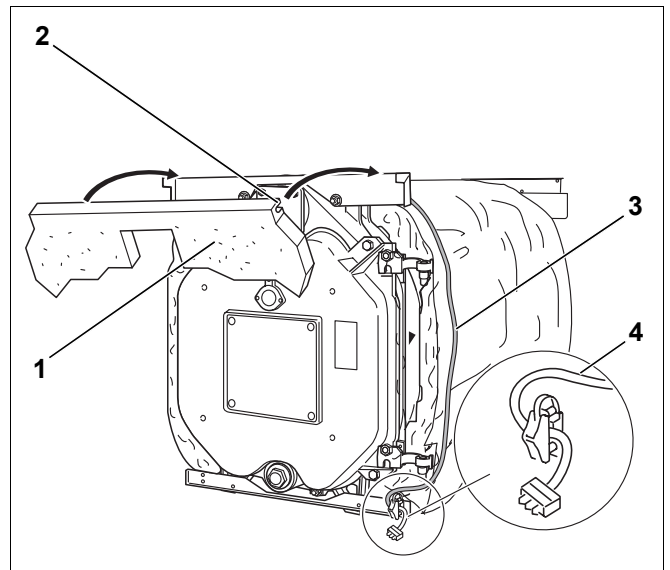

Fig. 34 Installation of the front insulation
- Slide the front insulation (Fig. 34, **Item 1**) with its slot (Fig. 34, **Item 2**) onto the front edge of the upper support bracket.
- Lead the burner cable (Fig. 34, **Item 3**) on top of the thermal insulation down over the side of the boiler block.
- With two screws secure the burner cable and strain relief on the lower cross tie-rod (Fig. 34, **Item 4**).